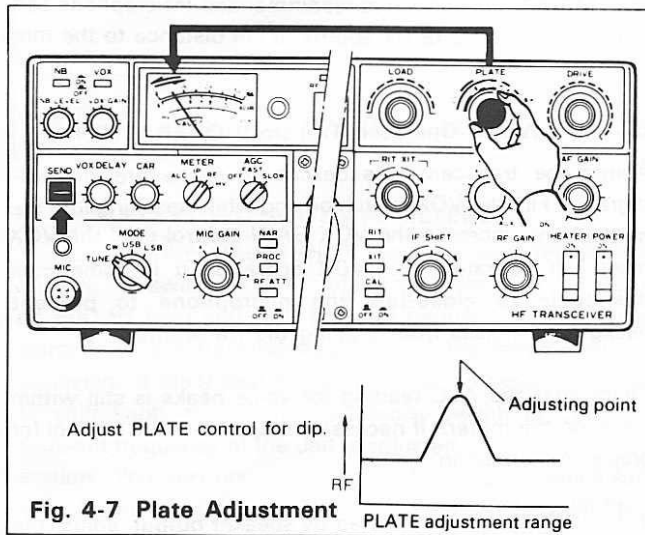

Fig. 4-7 Plate Adjustment
- Place the meter switch to Ip and dip the PLATE. Dip will be typically only about 5 ma. (or to RF and peak the Plate) Fig. 4-7